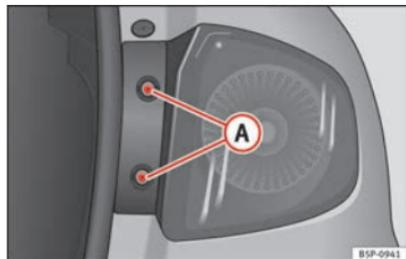

Fig. 190 Side lights and brake lights
- Remove the bolts ⇒ Fig. 190 **A**.